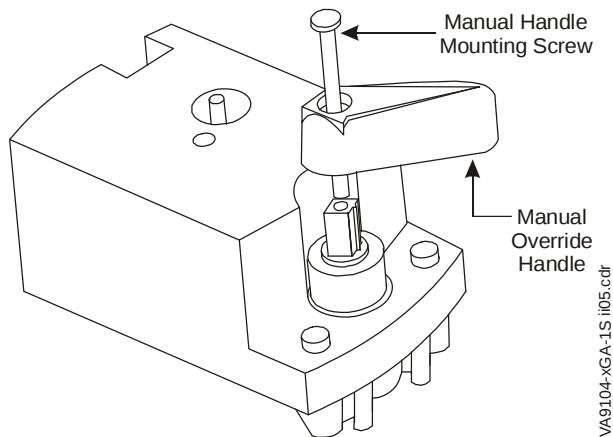

Figure 5: Installing the Handle
2. Place the handle on top of the drive shaft as shown in Figure 5. The handle is keyed and can only be mounted in one orientation.
- verify that the valve fully opens and closes, using the gear release button on the actuator and the manual override handle, shown in Figure 5.